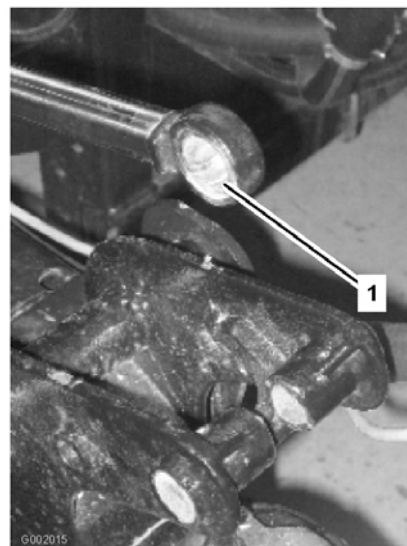

Figure 36
5. Manipulate the actuator rod bearing end and apply grease into the bearing (Figure 36). Wipe off excess grease.